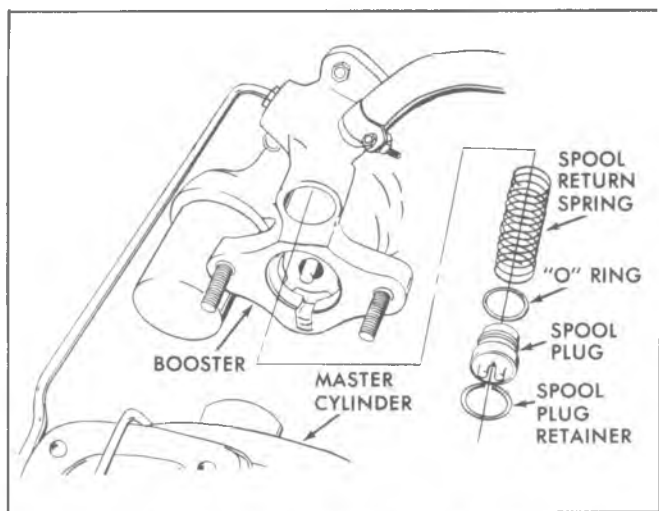

Fig. 5-53-Spool Valve Plug Removal
3. Push spool valve plug in and use a small screwdriver to remove retaining ring (fig. 5-53).
1. Install "O" ring and spool valve plug (fig. 5-53).